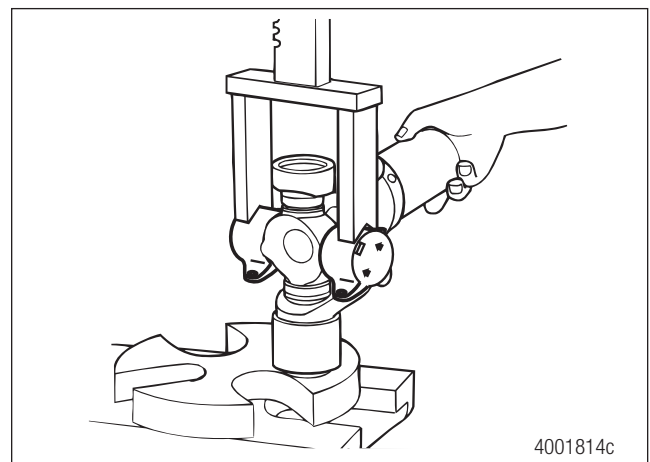

Figure 5.32
3. Rotate the shaft 180 degrees. Repeat the procedure for the opposite side of the universal joint. Figure 5.32.